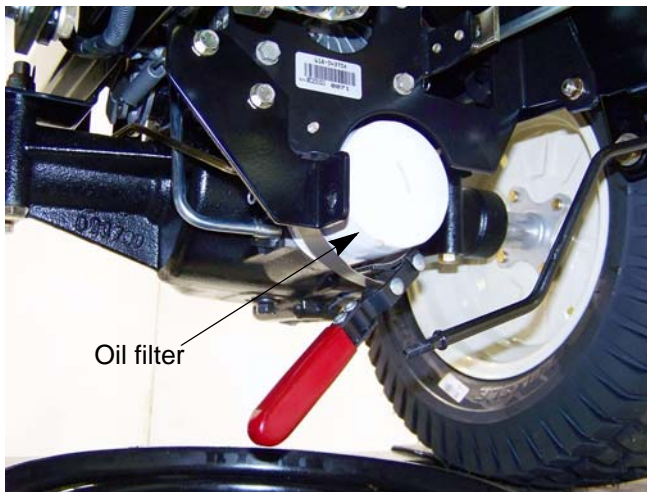

Figure 5.2
9. Remove and discard the oil filter using a suitable strap wrench. See Figure 5.2.